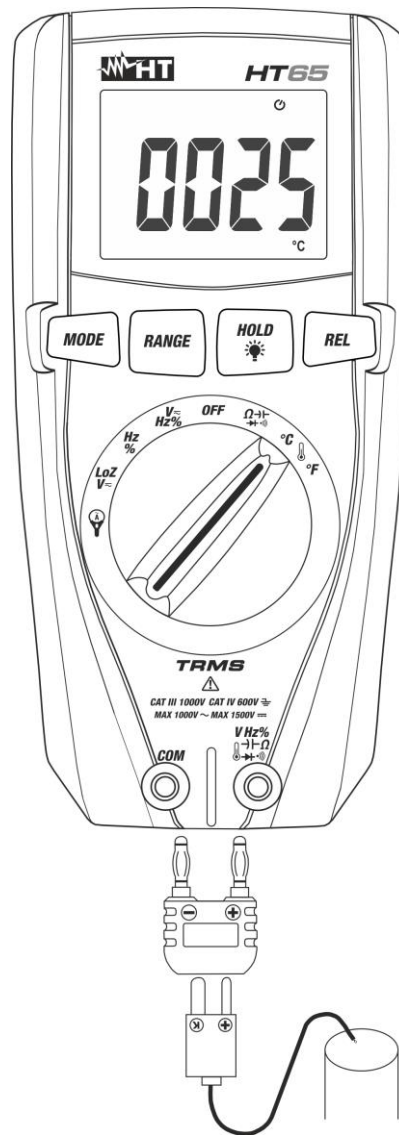

Fig. 9: Use of the instrument for Temperature measurement
2. Insert the provided adapter into input terminals **V Hz %** (polarity +) and **COM** (polarity -) (see Fig. 9)